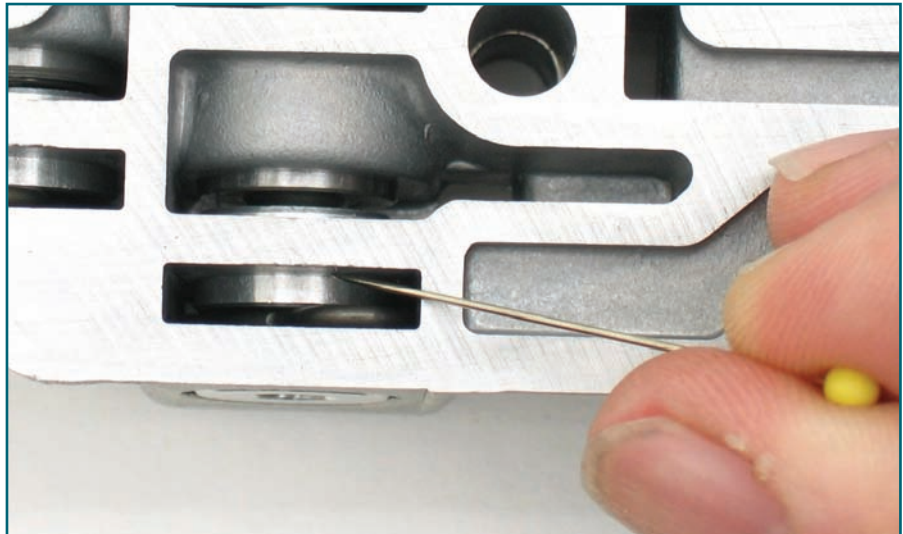

Figure 6
- Scribe a line on both sides of the partition closest to the valve/spring (figure 6).